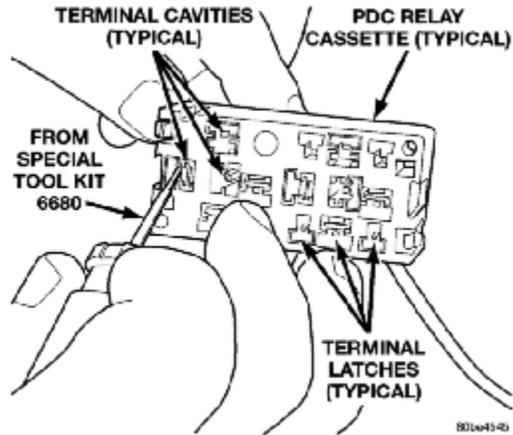

Fig. 10 PDC Relay Cassette Terminal Remove/Install
- (4) While pulling gently on the wire from the bottom of the faulty PDC relay cassette, use a terminal pick tool (Special Tool Kit 6680) from the top of the relay cassette to release the latch that secures the terminal in the relay cassette terminal cavity (Fig. 10).
- (5) From the bottom of the faulty PDC relay cassette, remove the wire and terminal from the relay cassette terminal cavity.
- (6) Make all necessary repairs and splices to the wire for the removed terminal. Refer to Wiring Repair in the index of this service manual for the location of the wiring repair procedures.
- (7) From the bottom of the PDC housing, align and insert the removed wire and terminal into the correct terminal cavity of the replacement relay cassette. Push the wire and terminal up into the relay cassette terminal cavity until it is fully engaged by the latch.
- (8) Repeat Steps (4), (5), (6) and (7) one wire and terminal at a time until each of the wires and terminals have been transferred from the faulty PDC relay cassette into the replacement relay cassette.
- (9) Install the PDC relay wedge into the replacement PDC relay cassette.